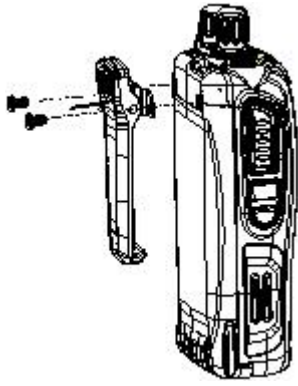

Figure 4
3. Tighten the screws. See figure 4.